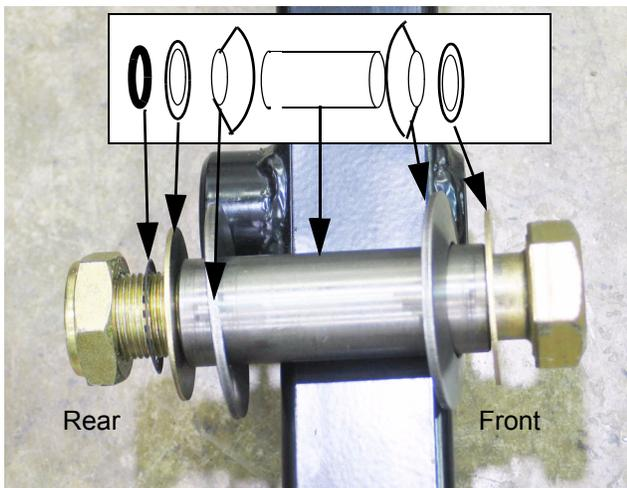

Figure 27.38
27.38. Hardware orientation: See Figure 27.38.